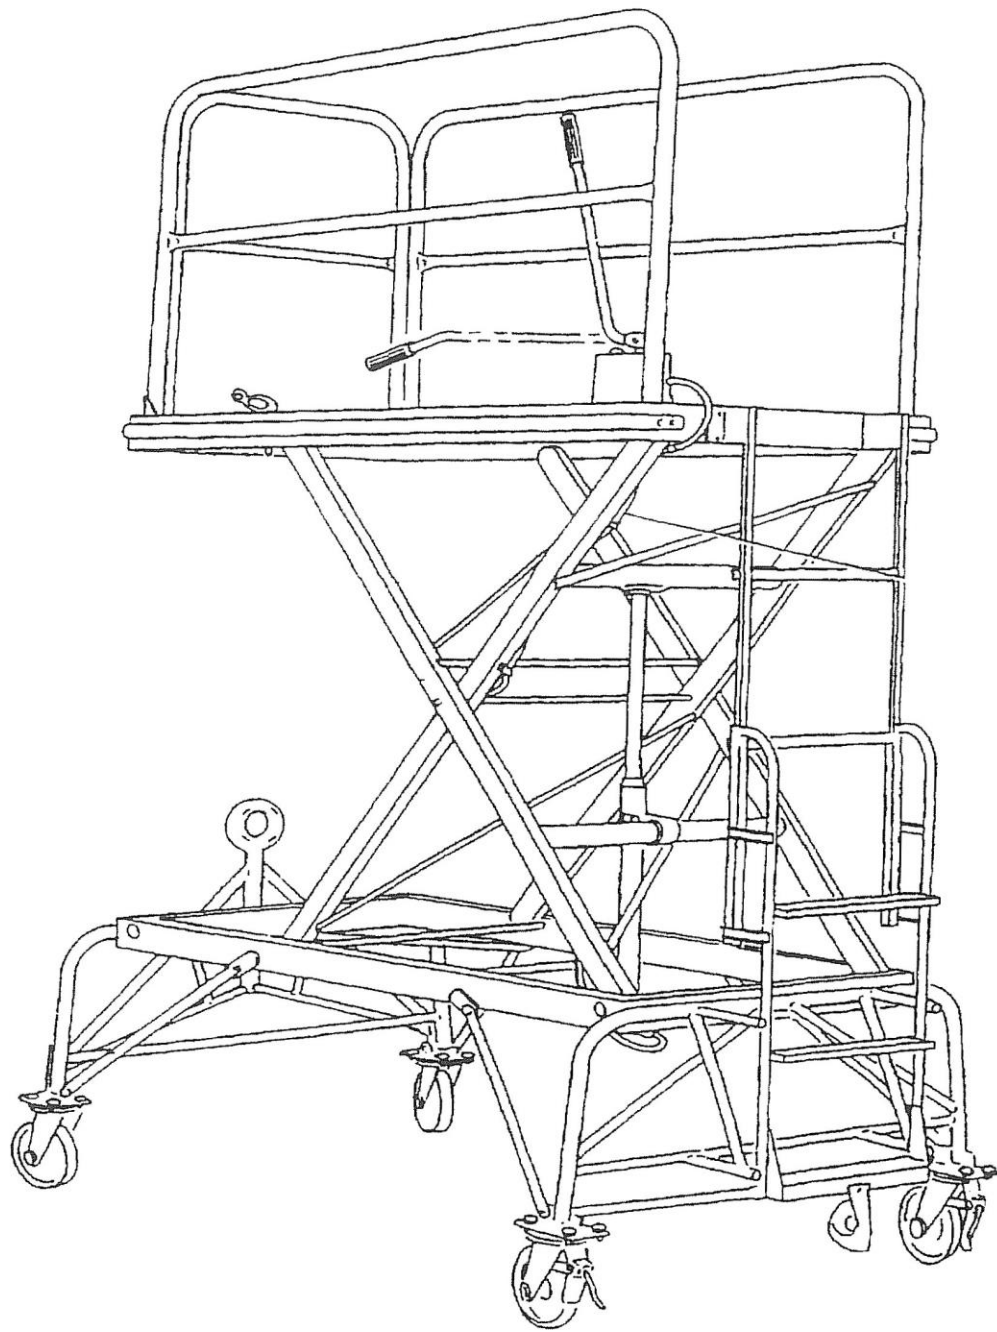

Figure 1-1. Platform, Adjustable Aircraft Maintenance, USAF Type B-4A
This handbook contains complete operation, service and repair instructions for the Platform, Adjustable Aircraft Maintenance, USAF type B-4A, manufactured by the United Steel and Wire Company, Battle Creek, Michigan, and Dynamic Manufacturers, Inc., Birmingham, Michigan. (Figure 1-1).
2.1.1 Platform. The platform is packed in one wooden crate 83-1/4 inches long by 43-1/4 inches wide by 27 inches high, together with component parts. Guard rails, ladders, end rails, braces, and casters are nested on the platform and must be assembled after shipment. For proper assembly of the platform, see Figure 1-1.